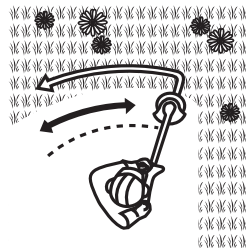

Fig. 18
6. Move the product with a slow regular arc from left to right before moving it back to the starting position before trimming the next area (Fig. 18).